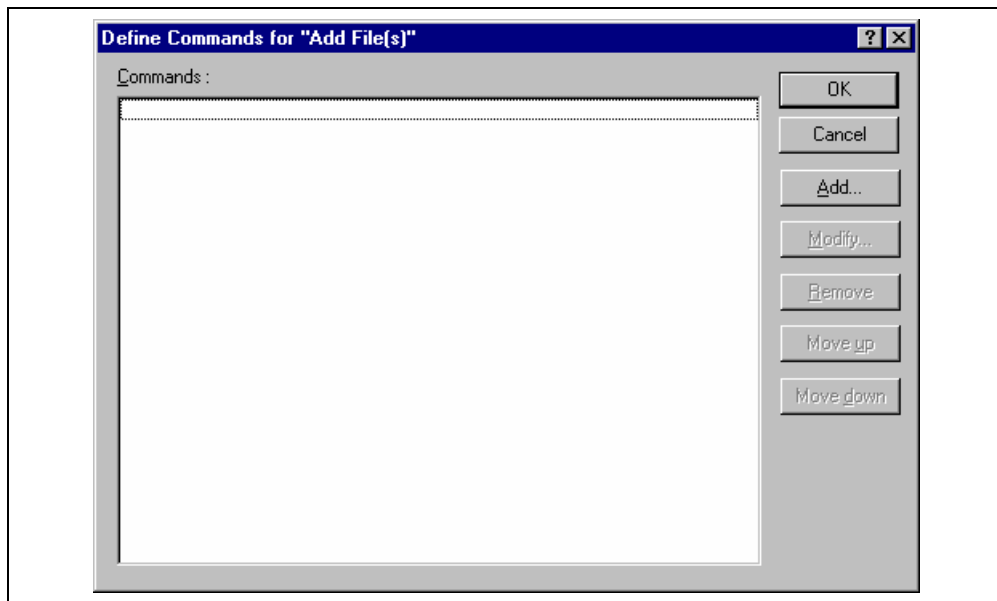
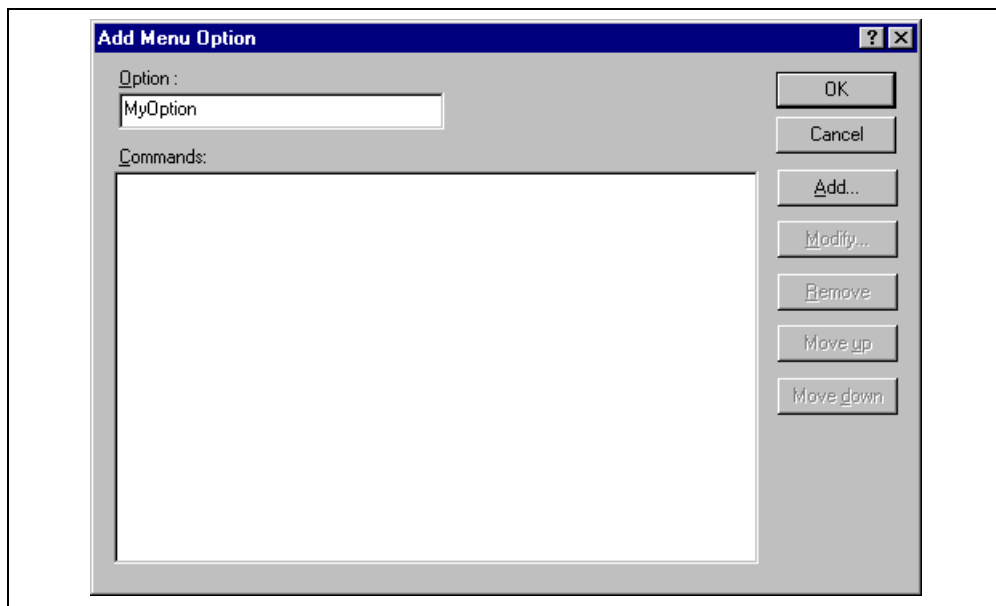
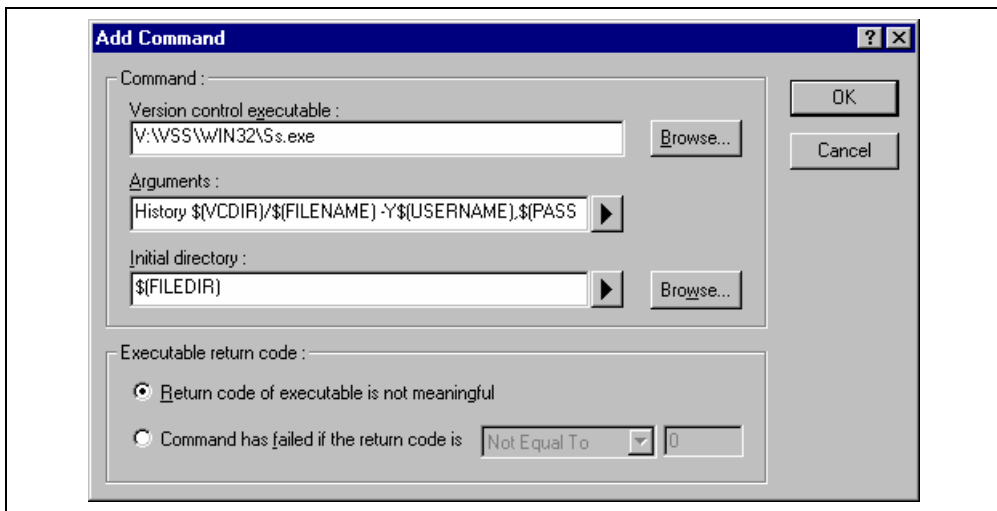

Figure 8.3: Modify System Menu Option (Example)
Figure 8.4: Add Menu Option Dialog
Figure 8.5: Add/Modify Command Dialog
2. Select the option to be modified from the "System menu options and toolbar buttons" list and then click the "Modify..." button. The dialog shown in figure 8.3 will be displayed. This figure shows a dialog when "Add File(s)" has been selected for example.
2. Click the “Add...” button. The dialog shown in figure 8.4 will be displayed.
2. Select the menu option to be modified from the “User menu options” list and then click the “Modify...” button beside the list. The dialog shown in figure 8.4 will be displayed. (The title of the dialog is “Modify Menu Option”.)
Commands are defined when the “Add...” or “Modify...” buttons are clicked on the dialogs shown in figure 8.3 and figure 8.4. In either case, the dialog shown in figure 8.5 is invoked.